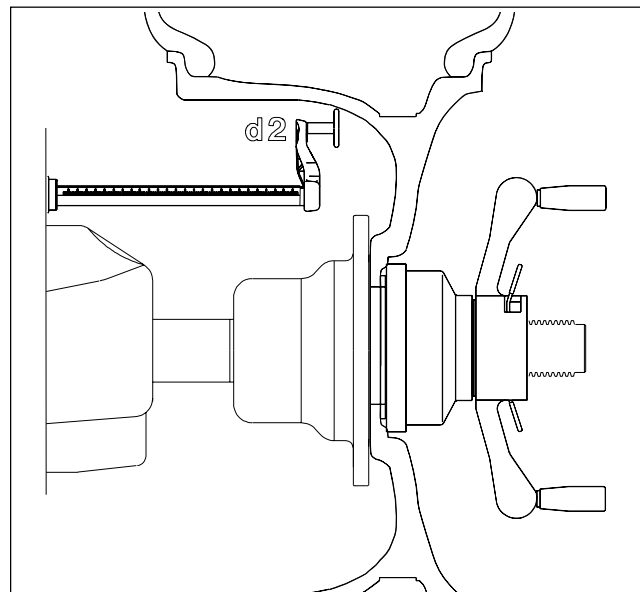

Figure 31
3. The machine displays "d - 2". Move the parameter arm to the right weight position. See Figure 31. The computer will display the distance reading in the left window and "d-2" in the right window. Rim width is calculated from the difference of D1 and D2.